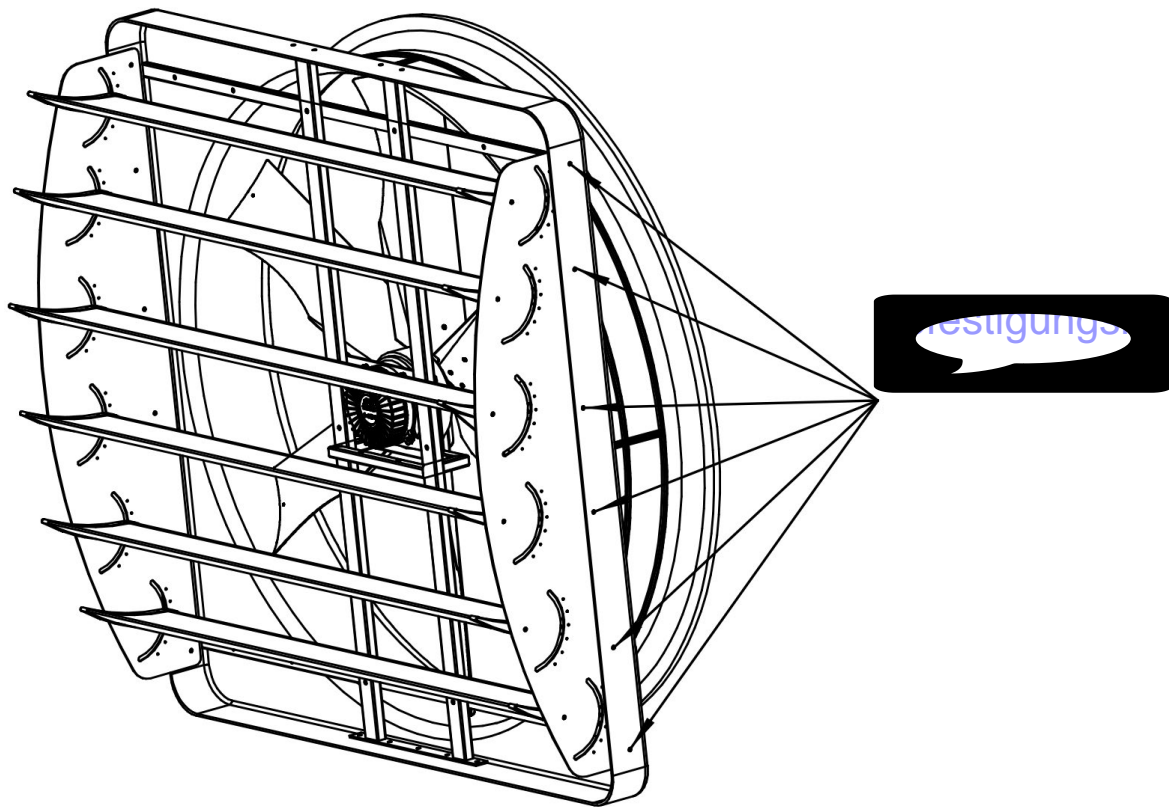

Figure 3
1. First lock the two guide plate mounting plates on the six mounting holes of the fan housing (see Figure 3 above)